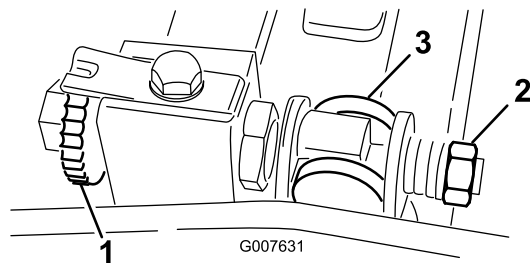

Figure 48
1. Turn bedbar adjuster screw, counterclockwise, to back bedknife away from reel (Figure 48).
2. Back out the spring tension nut, until the washer is no longer tensioned against the bedbar (Figure 48).